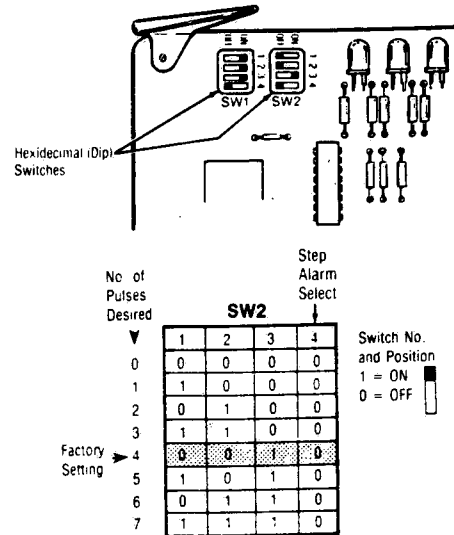

Figure 7-39. DIP SWITCH SETTINGS: Eagle 2300.
7.25 SERIES 2300 I/O #1 PC BOARD DIP SWITCH SETTING (Fig 7-39)
This switch (Positions 1, 2 and 3) selects number of VAC pulses during conditioning on a VACAMATIC machine. Number of pulses can vary from 0 to 7 (see Figure 7-39). Position 4 is used to determine TOO LONG IN STEP alarm setting. For small and medium units, position 4 is set to OFF; ensure switch setting when replacing board.